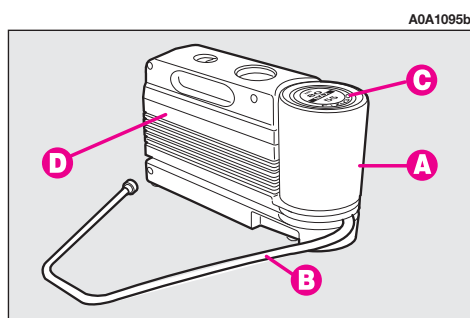

fig. 10
The kit **fig. 10** is placed in the boot. In the kit container you will also find the screw-driver and the tow ring.
- bottle **A-fig. 10** containing sealer and fitted with: